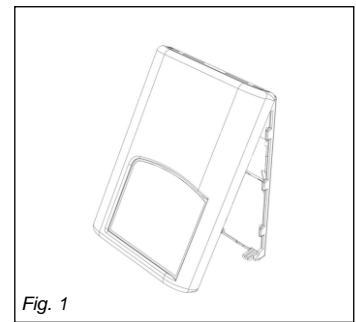

Fig. 1
## Installation of room sensors (VH20 Wall) (Fig. 1 & 2)
- Open up by pulling on the bottom side of sensor. (Fig.1)